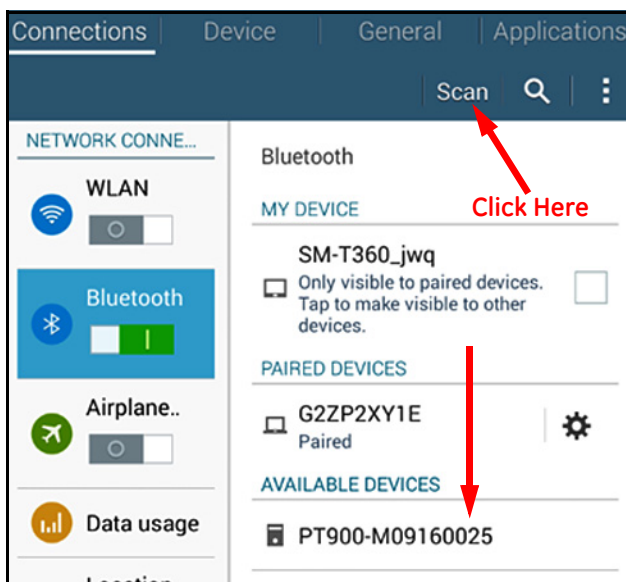

Figure 66: Available Devices List
8. In Android, APP will search for all available transmitters via Bluetooth. After the scan has been completed, any new transmitters which were found are listed in the **AVAILABLE DEVICES** section of the tablet screen (see red arrow in *Figure 66* below). Click on your transmitter to pair it with the tablet via Bluetooth.